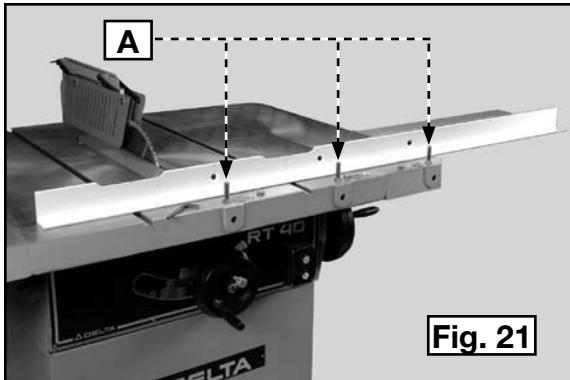
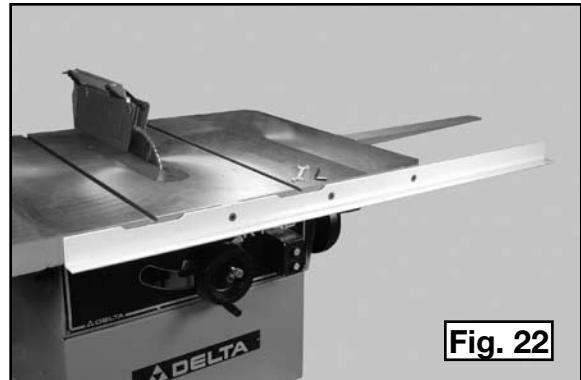

Fig. 21
Fig. 22
1. Use three (3) 1/2-13 X 2" flat-head bolts, flat washers, lockwashers, and hex nuts (A) Fig. 21 to attach the guide rail to the front of the saw table (Fig. 22). Loosely tighten with the supplied hex wrench for further adjustment.